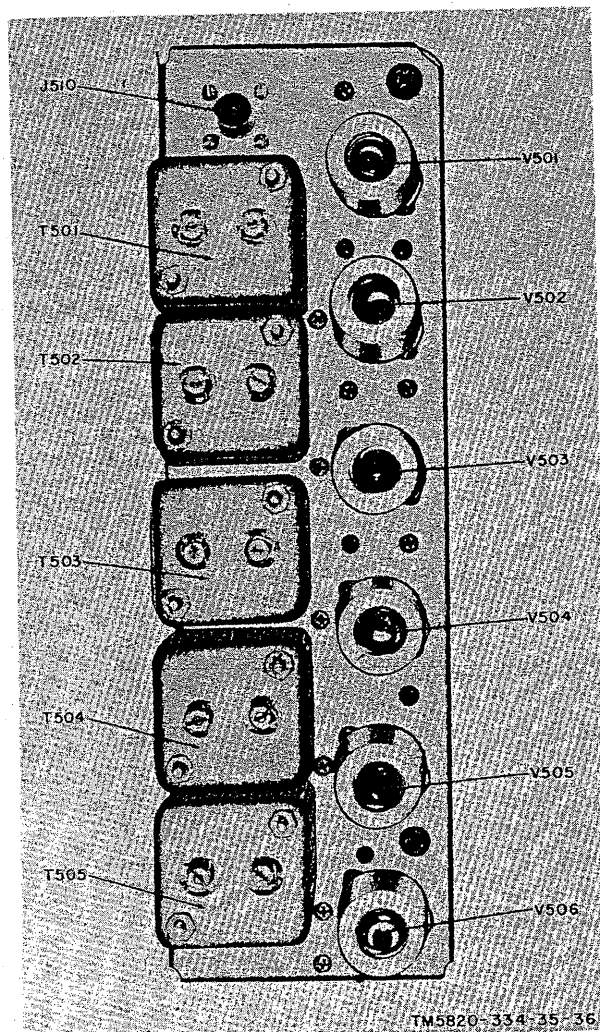

Figure 39. I.f. subchassis, top view.
51. If. Subchassis Tests (fig. 39 and 40)